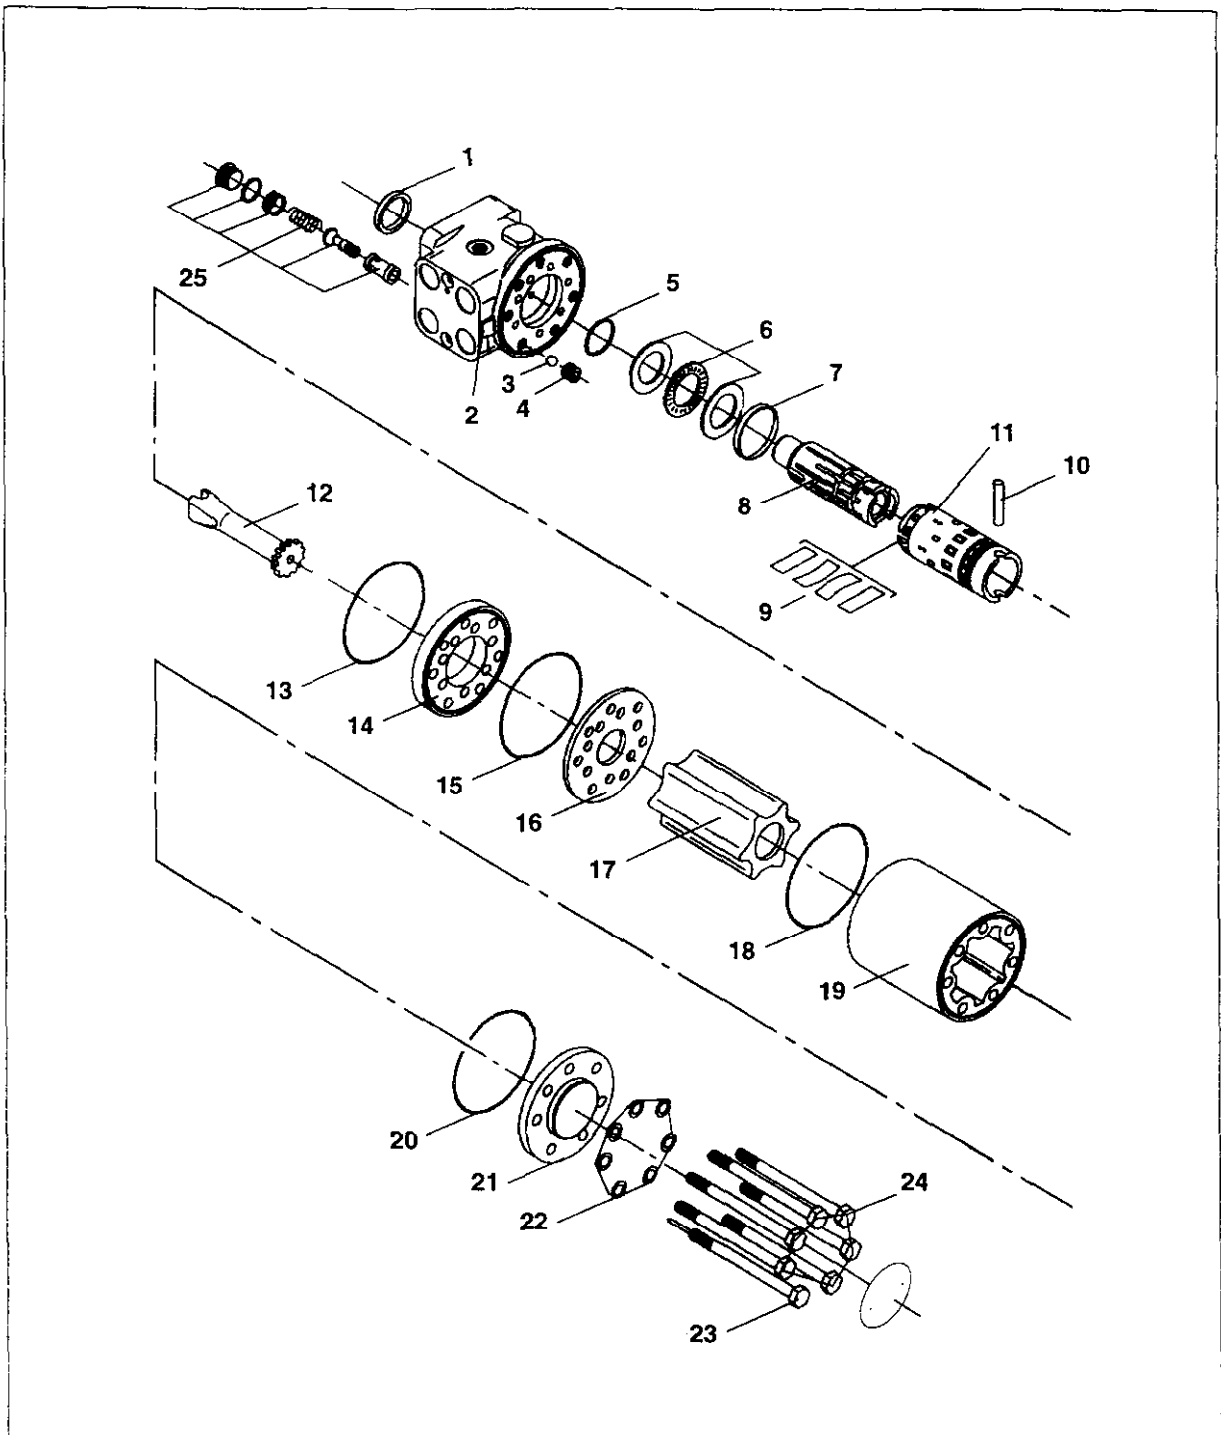

Fig. 4-8 Components of steering valve
Loosen the securing screws (24, fig. 4-8) and remove cover (21).
Insert ball (3, fig. 4-8) into its seat on the body and tighten threaded bush (4).
Position intermediate plate (14, fig. 4-8) and shim ring (16) with the relevant O-Rings.